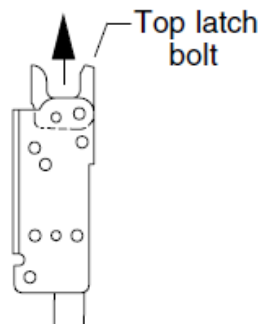

Figure 11-4
- 11.5. With top latch bolt released and facing up (Figure 11-4), position bottom of cylinder lift bracket $5/8"$ down from step in cutout (Figure 11-5). Maintain $5/8"$ location and tighten cylinder lift bracket mounting screws securely.